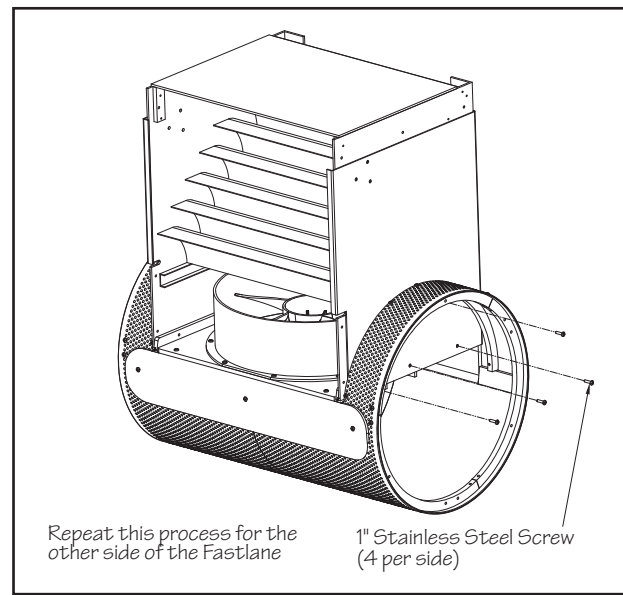

Fig. 6.4B
- 6.6 Use the provided stainless steel screws to attach the upper housing to the base. There will be 4 screws per side (total of 8). On each side of the housing, there will be 3 screws securing the upper housing to PVC motor mount support and 1 screw attaching the stainless steel reinforcing support to the housing just above the 3 previous screws (Fig 6.4B).